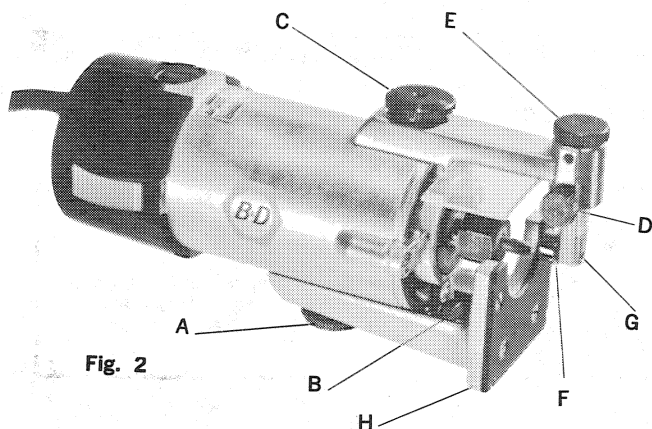
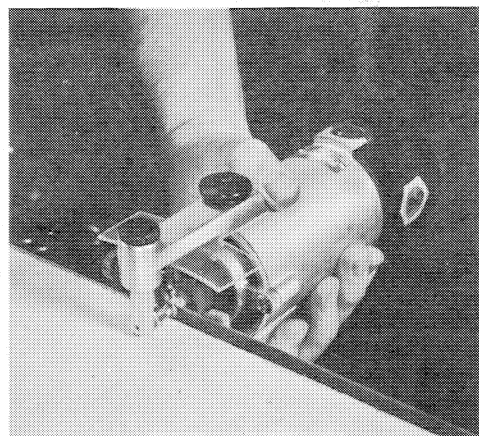

Fig. 2
Fig. 3
1. A clear plastic shield is also provided to protect the operator from flying chips. Attach this shield in the position shown in Fig. 2, with the two screws supplied, before making any cuts.
Loosen locking nut "A" (see Fig. 2) and rotate adjustment nut "B" to move base "H" up or down as desired. Use a steel scale or a strip of laminate against the base to aid in selecting the portion of cutting edge to be used. Changing this setting when necessary will present a fresh, sharp portion of the cutting edge, thereby prolonging the life of the bit. Retighten locking nut "A".
Grasp the tool firmly in both hands, or with one hand as you become experienced with the tool. Lower the revolving bit into the laminate until the round steel guide is in contact with the top surface, and the guide base, "H" Fig. 2 is in flush contact with the surface of the laminate—see Figs. 3 & 4.